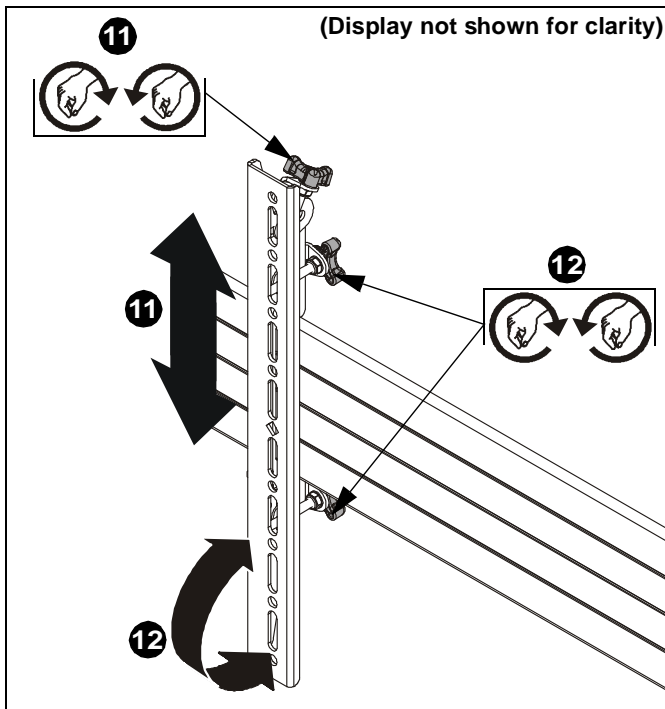

Figure 16
11. Use upper knob on back of interface brackets (L and M) to adjust the height of each display. (See Figure 16)
12. Use middle and lower knobs on back of interface brackets (L and M) to make plumb adjustments to each display (See Figure 16)